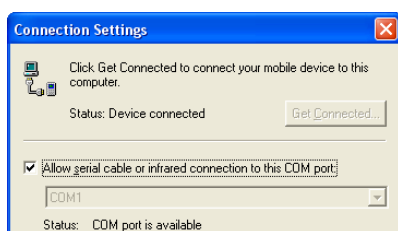

Figure A-6. Connection Settings for Multiple COM Ports
3. On the **Connection Settings** dialog box, set the following parameters (Figure A-6):